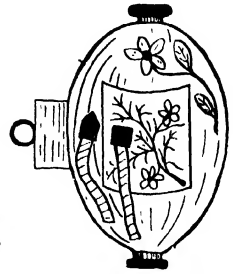

Fig. 248.—Eggshell Holder for Tape Measure.
**Holder for Tape Measure.**—To make a holder for a tape measure (Fig. 248), cut a hole at each end of an egg, take a square piece from one side, and make a 1-in. slit on the left. Do not scrape all the wax from the square piece; simply scratch along the lines, and the piece will come away entire. Hinge it on, and use ribbon fasteners. Cut a wooden spindle, wind a tape measure round the middle, insert it through the door, let